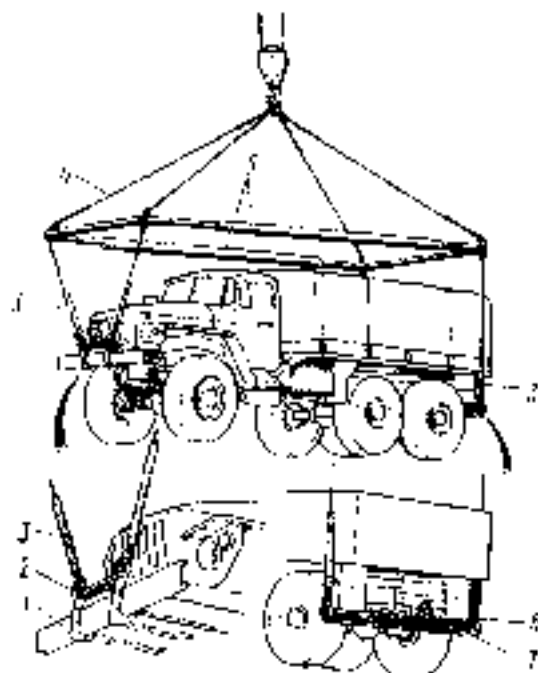

Fig. 151 Application of Hoisting Slings.
3. Load and unload the truck by means of a sling lifter (Fig. 151) or by its own power.